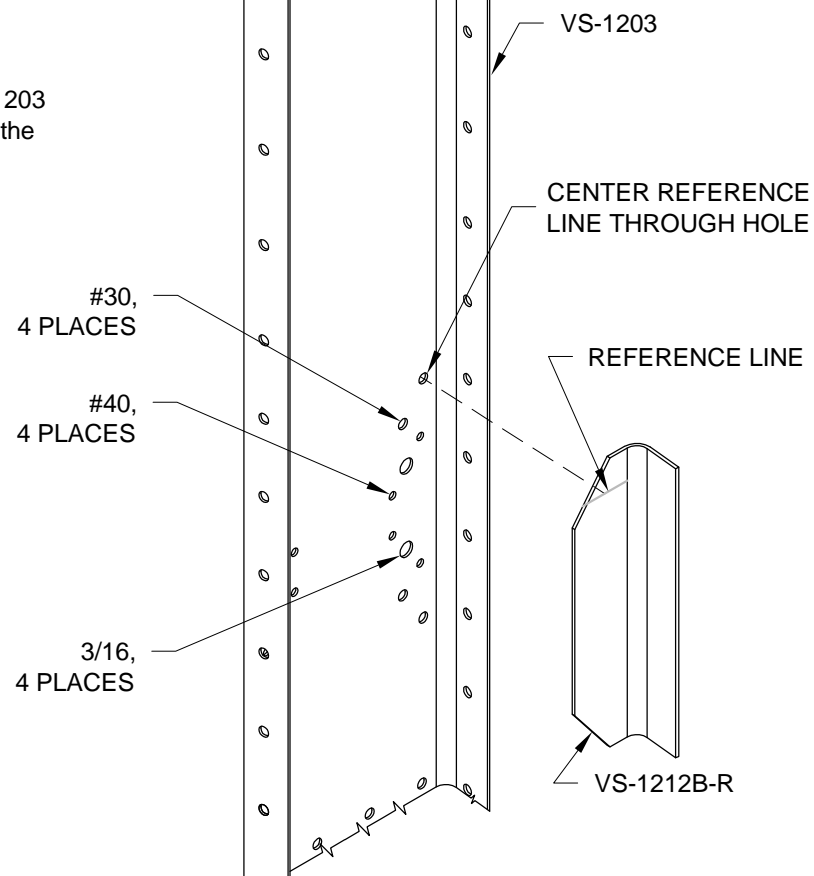

FIGURE 3:
Step 3: Nest the VS-1212B-R Upper Spar Cap into the VS-1203 Rear Spar so the reference line shows through the center of the #30 hole in the rear spar web called out in Figure 3.
NOTE: For Steps 4 through 7, refer to Figure 3 and 4